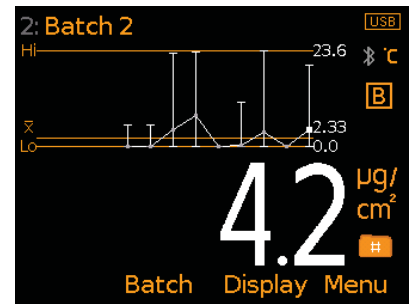

Fig. 4: Run Chart & Readings x1
- **Run Chart** (Fig. 4); A line trend graph of the last 20 measurements which is updated automatically after each reading.